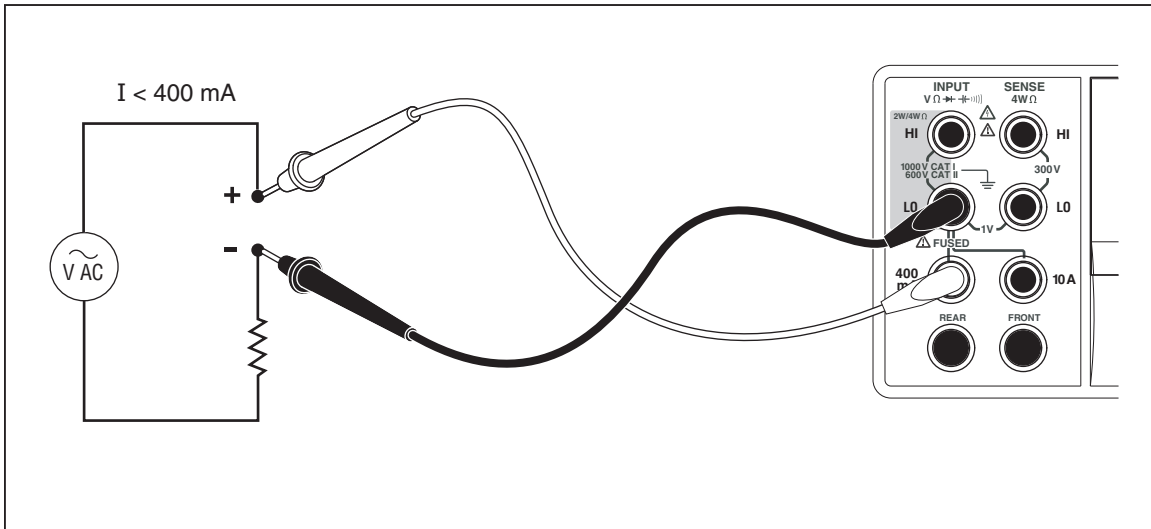
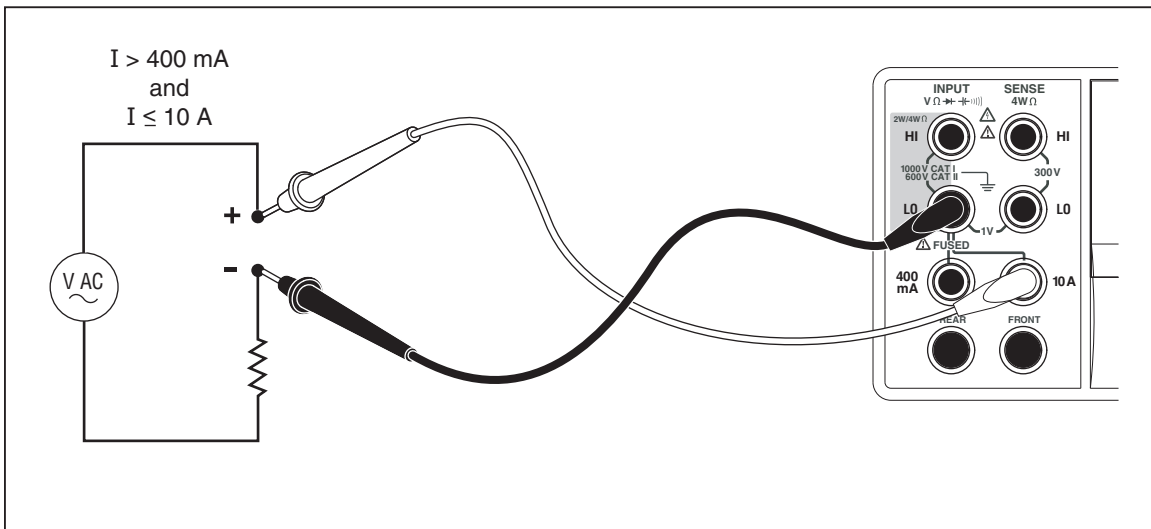

Figure 4-4. Input Connections for Current Measurements Below 400 mA
Figure 4-5. Input Connections for Current Measurements Above 400 mA
The Meter is capable of making both ac and dc current measurements up to 10 A. Two separate input connectors, in conjunction with the **LO** connector, are used for current measurements. For best resolution, current measurements not exceeding 400 mA should be made using the **LO** and **mA** input connectors as shown in Figure 4-4.
Current measurements expecting to be between 400 mA and 10 A are made using the **Input LO** and **10A** input connectors as shown in Figure 4-5.
1. Connect the test leads between the Meter’s input connectors and the measured circuit as shown in Figure 4-4 for currents 400 mA or less or Figure 4-5 for currents up to 10 amps.
- Connect the test leads between the Meter's input connectors and the measured circuit as shown in Figure 4-4 or Figure 4-5, based on the anticipated level of current.